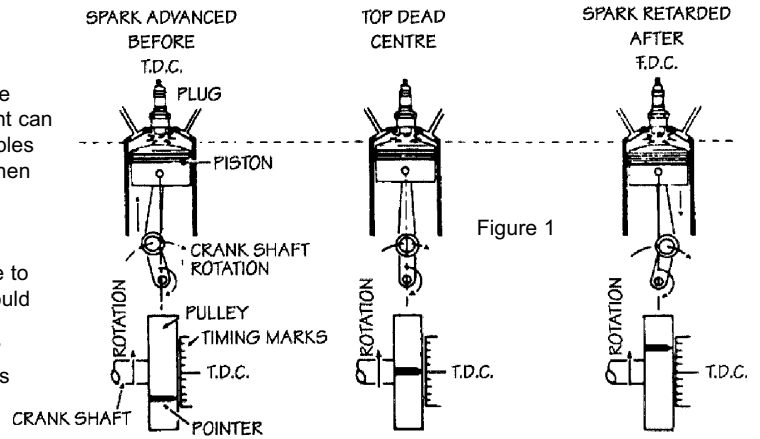

Figure 1
Timing is given in Degrees Before Top Dead Centre (BTDC) or After Top Dead Centre (ATDC). In order to completely burn the air/fuel mixture in the car's cylinders, most timing is such that the spark occurs at a point several degrees BTDC (for example 4° BTDC). This ensures that the full power of the explosions obtained (see fig 1). Two additional terms used when describing timing are 'Advanced' and 'Retarded'.
As shown in figure 1, when the timing is advanced the spark will occur BTDC. On some late model cars equipped with various emission control devices, the timing is retarded so that the spark occurs ATDC. Timing is changed by adjustment of the ignition distributor.
In order to allow setting and adjustment of the engine timing, timing marks are provided on each engine during assembly. In most cases, these marks appear on the engine vibration damper or fan pulley at the lower front of the engine (figure 1). On some early engines, this mark was shown at the rear of the engine on the flywheel.
- 4.1.1 Locate engine timing mark (see figure 1) and use a rag to clean all grease and dirt from the mark and the pointer. It may help to use chalk or white paint on the marks to make them more visible.